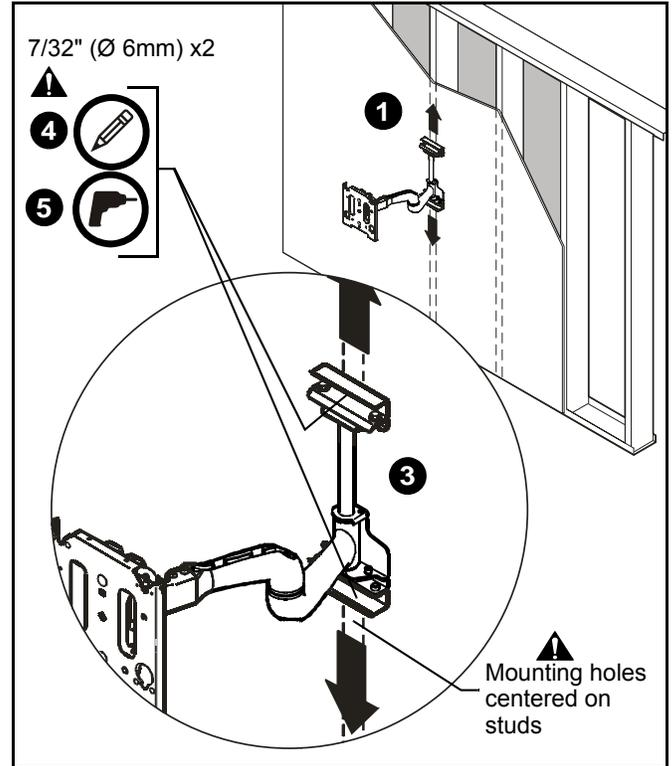

Figure 2
2. Using a stud sensor locate stud. (See Figure 2)
3. Using two people, place mount against wall and level mount aligning mounting holes in upper and lower wall channels with stud. (See Figure 2)
4. Use a pencil mark two mounting holes making sure mounting holes are located as close as possible to center of stud. (See Figure 2)
5. Drill two pilot holes where the mounting holes were marked using a 7/32" (6mm) drill bit. (See Figure 2)